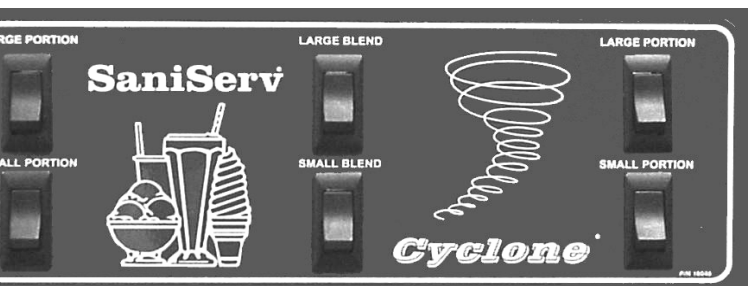

Fig. 14
8. If you are serving a large portion, depress and release the large portion switch which is lined up with the spout extender (Fig. 14). If you are serving a small portion, depress and release the small portion switch. The microprocessor will cause the ingredient dispenser motor to run the proper time to dispense the right amount of ingredient you have selected.